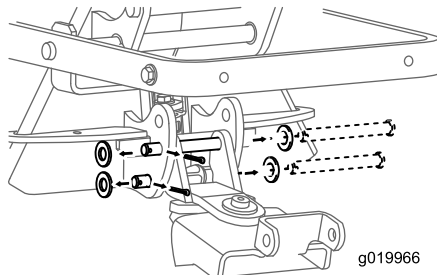

Figure 1
1. Remove and discard the cotter and clevis pins securing the existing bracket and lower end of the latch mechanism (Figure 1).